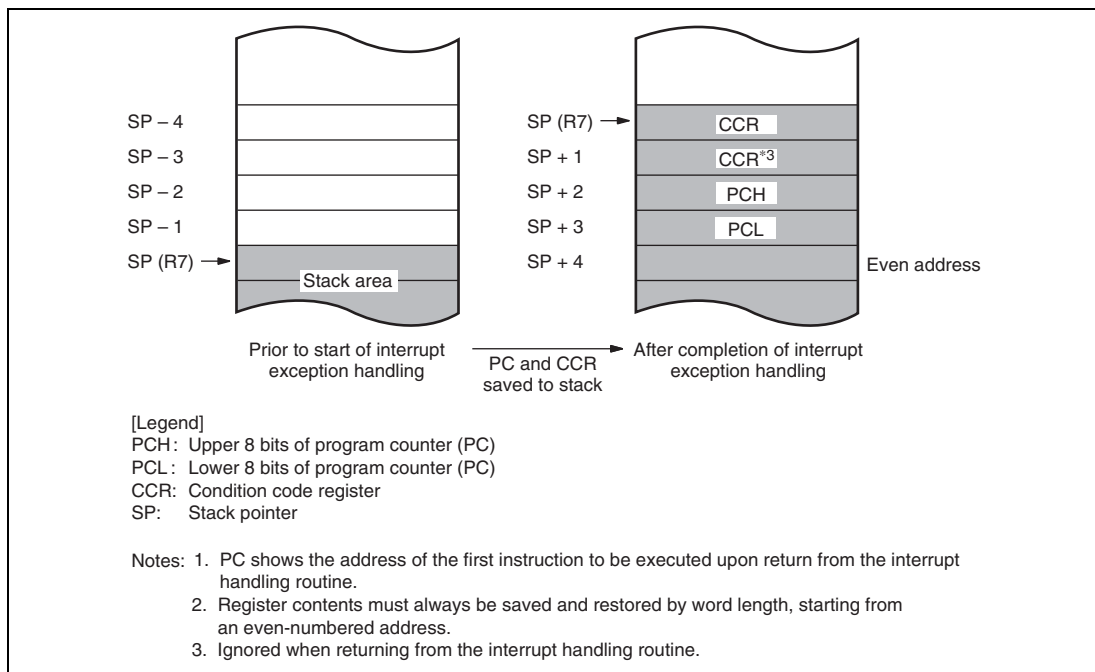

Figure 3.2 Stack Status after Exception Handling
4. If the CPU accepts the interrupt after processing of the current instruction is completed, interrupt exception handling will begin. First, both PC and CCR are pushed onto the stack. The state of the stack at this time is shown in figure 3.2. The PC value pushed onto the stack is the address of the first instruction to be executed upon return from interrupt handling.